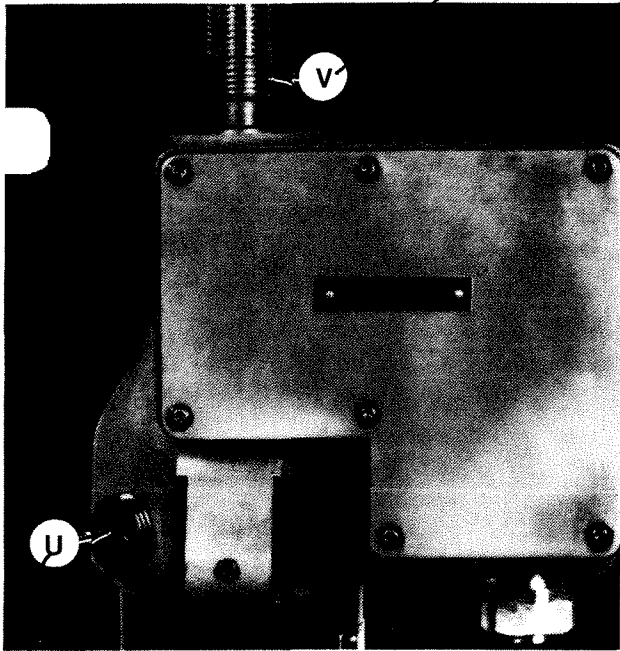
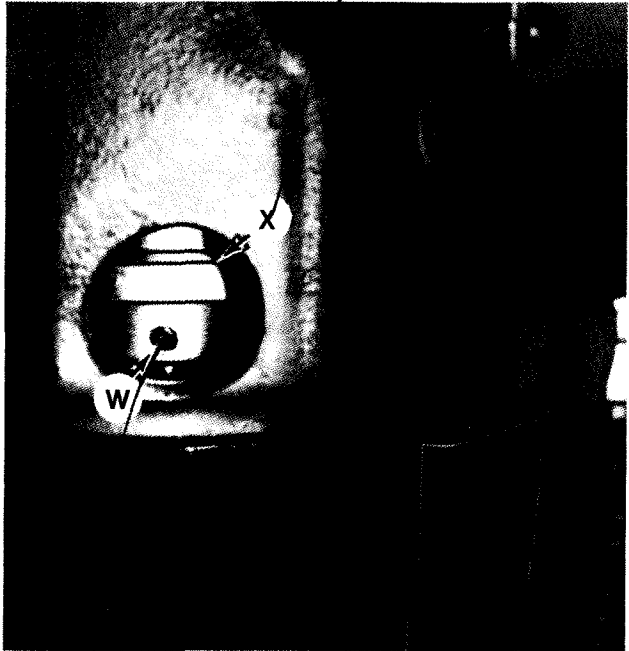

Figure 3.38 - Motor Brake Plug and Vertical Screw
Figure 3.39 - Motor Brake Adjustment
4. Remove plug "U", Figure 3.38 .
5. Loosen set screw "W", Figure 3.39 .
7. Turn vertical screw "V", Figure 3.38, by hand until a .010 to .015 inch [.25 to .38 mm] clearance is achieved between the brake and brake disc at point "X", Figure 3.39 .
9. Replace plug "U", Figure 3.38 .